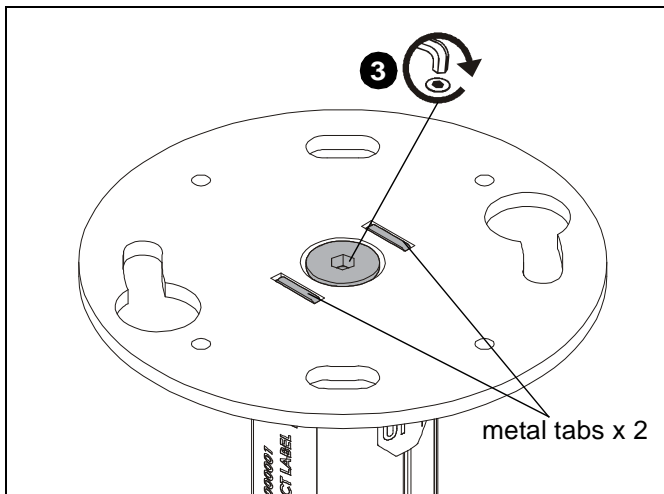

Figure 2
3. Tighten screw on top of CPA116 plate to fully secure plate to connector pin. (See Figure 2)
IMPORTANT ! : To ensure a secure connection, make sure metal tabs are clearly visible after tightening bolt. (See Figure 2)